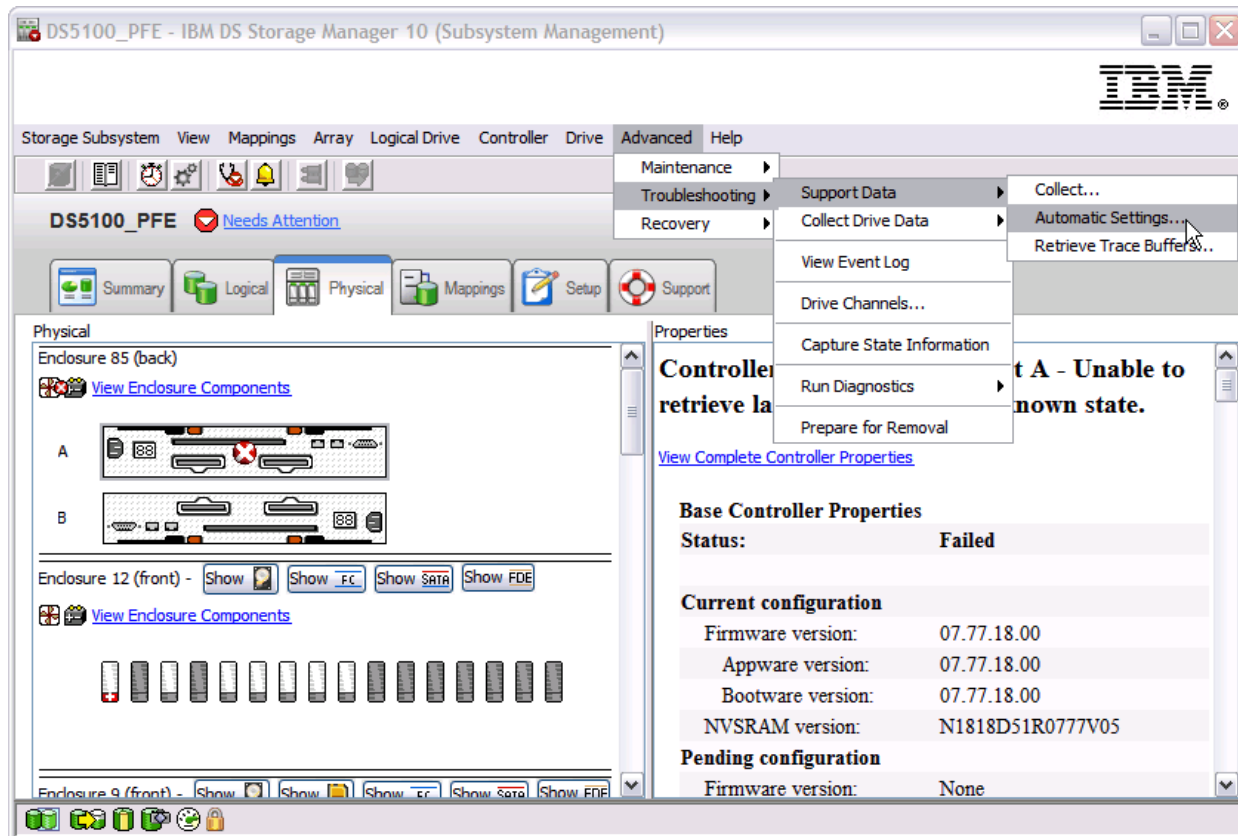

Figure 5-62 Enabling Automatic Data Collection
1. Select **Advanced** → **Troubleshooting** → **Support Data** → **Automatic Settings...** as shown in Figure 5-62.